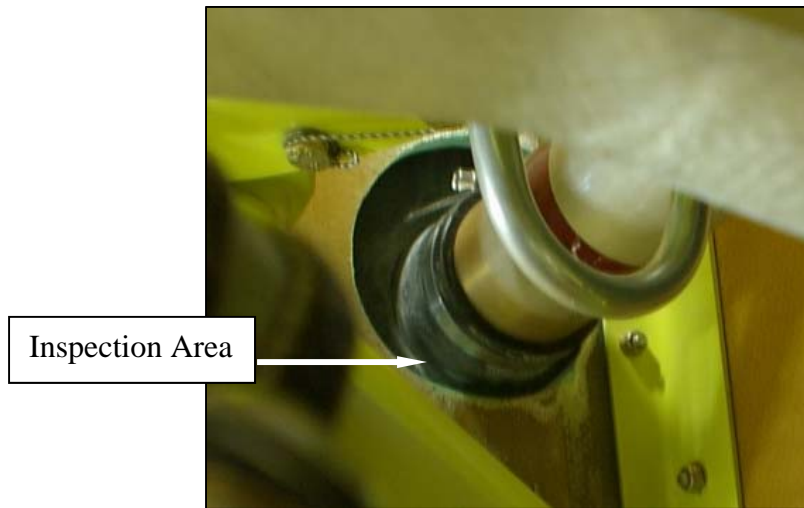

Figure 1. Fuel bladder nipple and the lower crossover tube installation (left-hand side shown)
6.1 Inspect the left- and right-hand fuel bladder nipple area for separation between the nipple and the fuel bladder structure. Use a bright light source and a mirror to aid inspection (Figure 1).